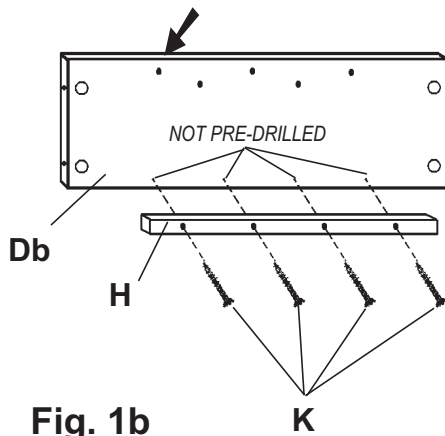

Fig. 1b
Attach a Bottom Support (H) to the Back (Db) with four #8 x 1-1/4" Black Screws (K) through the predrilled holes in the Bottom Support (H). The bottom support should be centered side to side and flush with the bottom edge of the back. See Figure 1b.